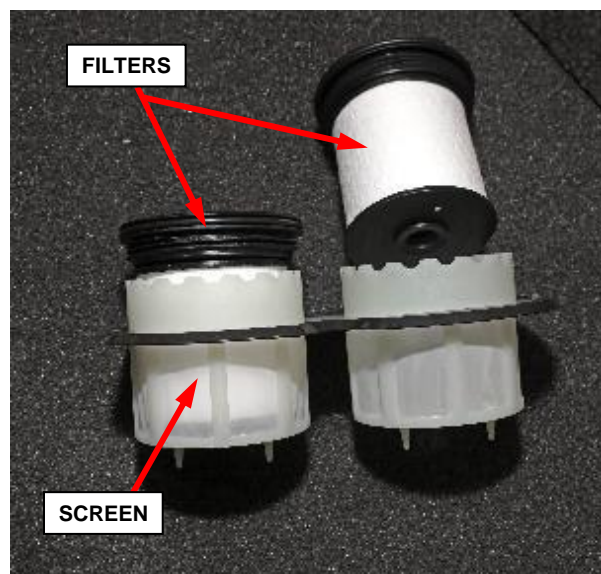

Figure 29 - New Fuel Filter Kit
**NOTE: The NEW Fuel Filter Kit contains two filter elements, a cover O-ring (not shown) and a filter screen (Figure 29).**